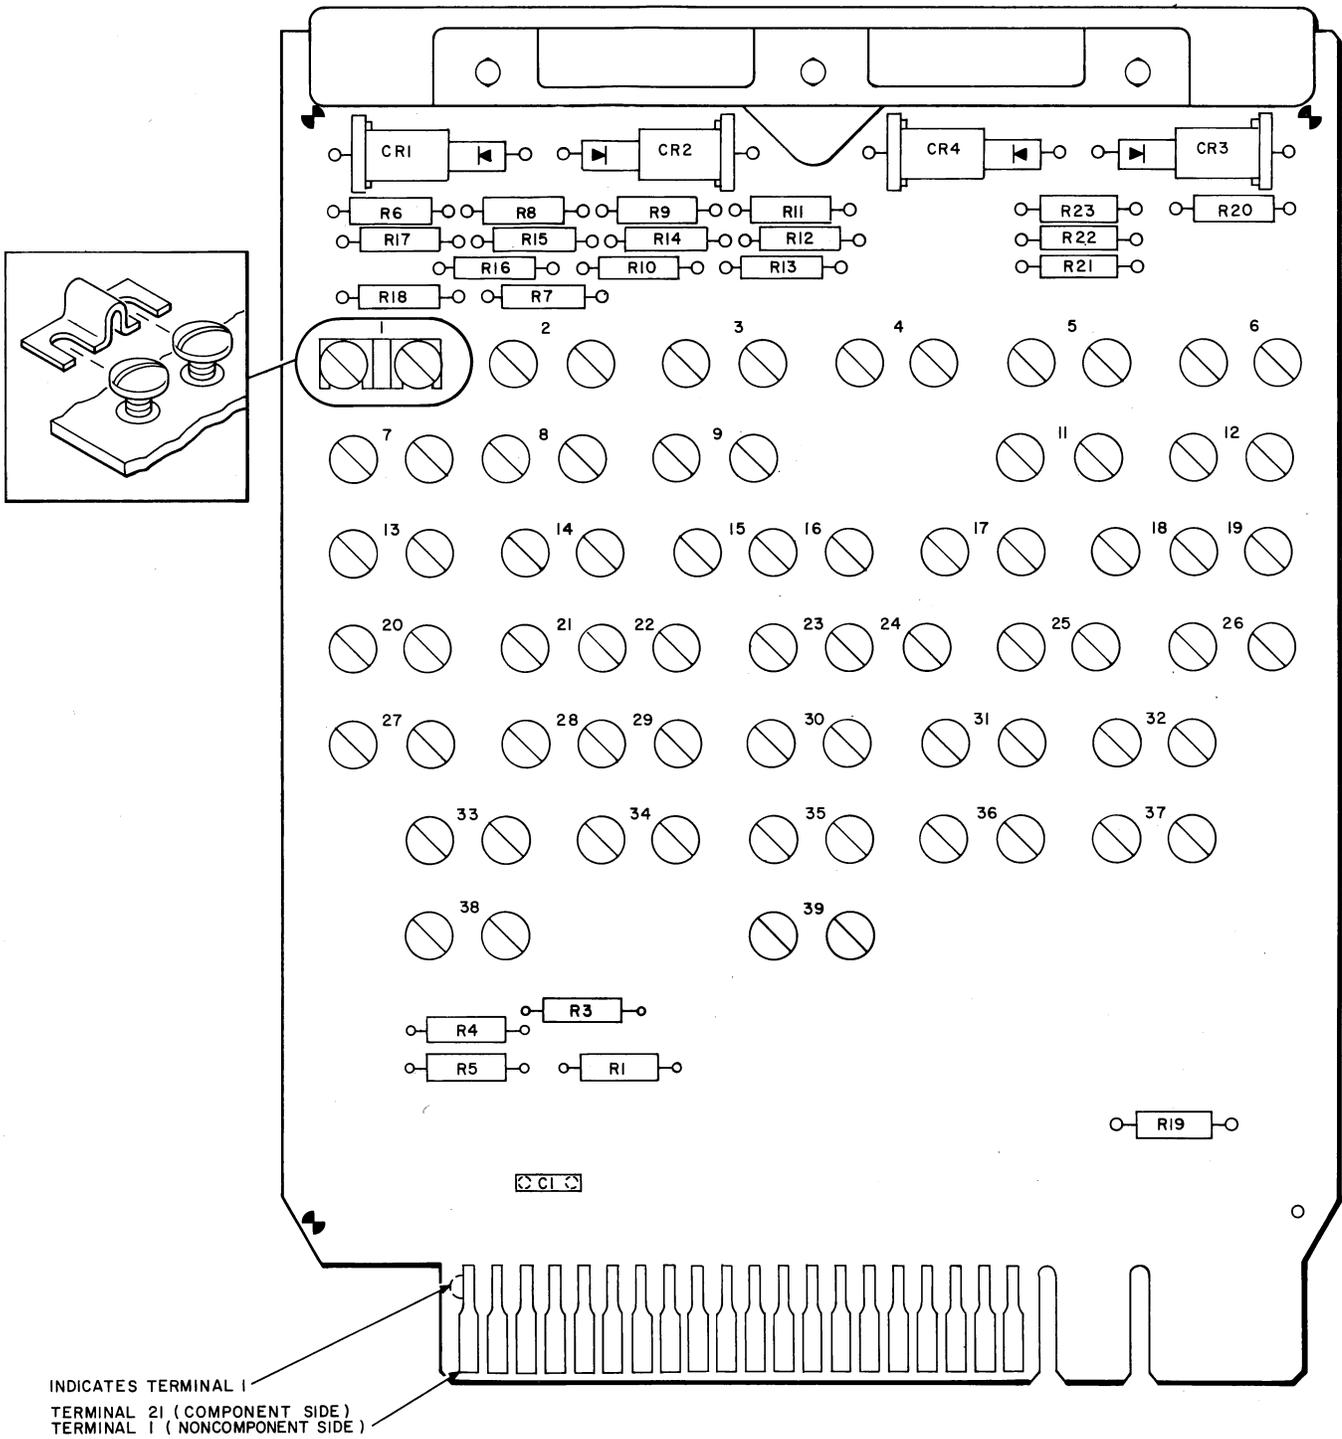

Fig. 8—Option Board AR335
**2.06** After the impulse noise test, loosen the screws and remove the circuit pack retaining bar from the 24A-type data unit. Remove option board AR335 (shown in Fig. 8) from slot location 15 and install (or verify the previous installation of) the required option straps as provided on the service order. Option straps are provided in a bag located behind the 66E3 connector block cover. Option identification and terminal numbers are provided in Table F. Return the AR335 to its original location, replace the retaining bar, and secure the screws.
**3.01** Options which establish the operating characteristics of the data set are made on the option board AR335 circuit pack located in the 24A-type data unit. An option is made by inserting a strapping link under the heads of two screws of the associated terminals and turning the screws to a fully tightened position. The terminals on the option board are shown in Fig. 8. A bag of 25 strapping links for the original installation should be found loose in a bag behind the cover on the 66E3 connector block. A listing of the available options and required strappings is provided in Table F.